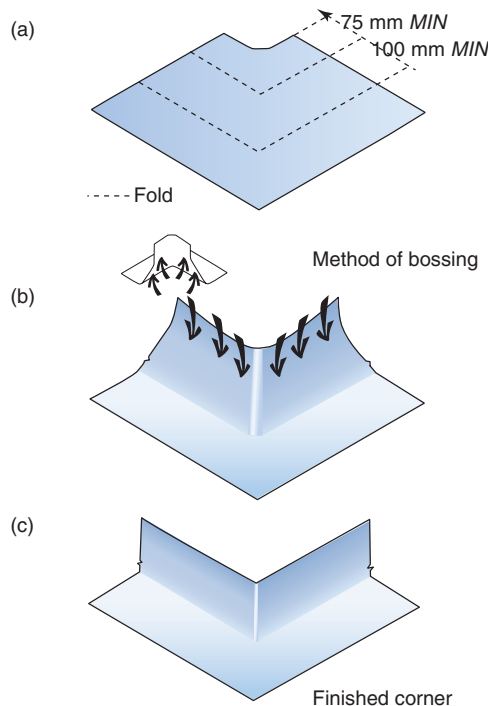

Figure 10.5 (a)–(c) Bossed external corner details (Reproduced with permission of Lead Sheet Association)
Referring to Figures 10.5(a)–(c), bossing an external corner is very labour intensive and there can be a risk of undue thinning at the corner. The preferred method of producing this detail would be by lead welding, which is more economical in both material and labour. However, the bossing process is:
- When bossing the external corner, extra lead is required to form the angle and at least 75 mm is added to the up-stand for this purpose. The lead sheet should be set out, as in Figure 10.5(a)
- After setting in the fold lines, the sides are pulled up as far as possible without stretching the lead and then bossed from both sides in the directions, as shown in Figure 10.5(b)
- When the corner has been fully bossed to the angle required, the surplus lead is trimmed off, as shown in Figure 10.5(c).